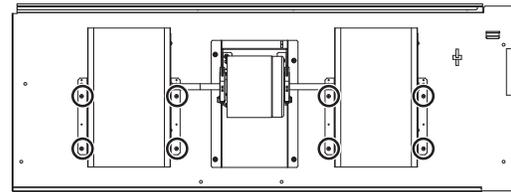

Fig.3
- (1) Remove the eight fixing screws on the fan case to remove it (Fig. 3).